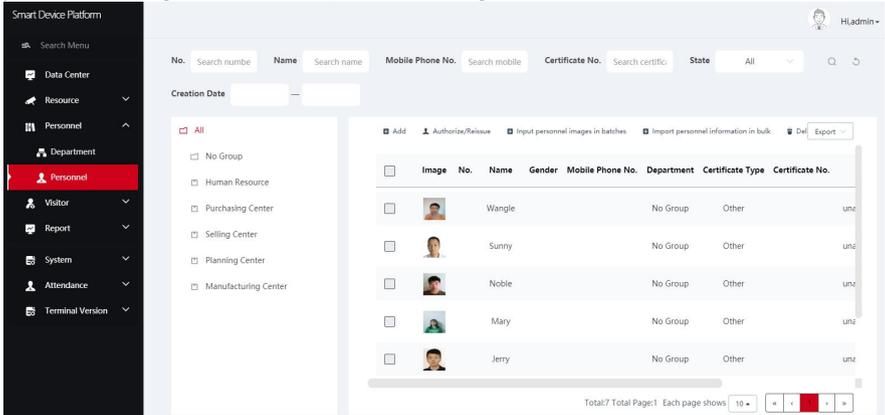

Figure 5-49
Step 1: In the smart device platform interface, click "Personnel→Personnel" to enter the personnel management interface, as shown in Figure 5-49 below.